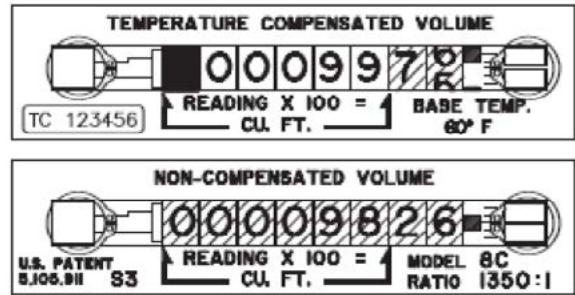

Figure 40 - A reading of 9756 would be the number recorded for TC unit operational check.
3. Observe the Temperature Compensated volume odometer. When the odometer stops turning after an intermittent compensating cycle, record the last 3-digit reading (Ci) indicated on the odometer, PLUS the value indicated by the graduated marks on the test wheel. Read as a whole number. (See the Sample Counter Reading in Figure 40 below.)